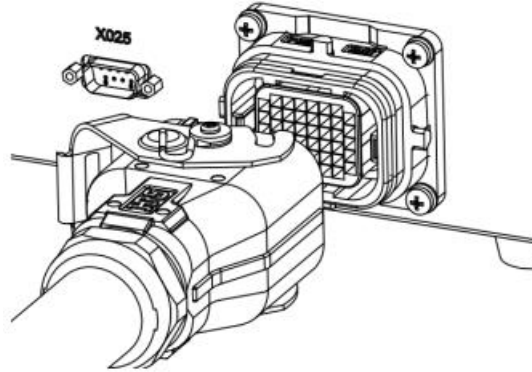

Figure 4-3 Control cabinet heavy duty connector interface
Step1.Connect the heavy-duty line to the control cabinet: Insert the heavy-duty line plug into the heavy-duty line connection port of the control cabinet (see Figure 4-3) and tighten the lock.